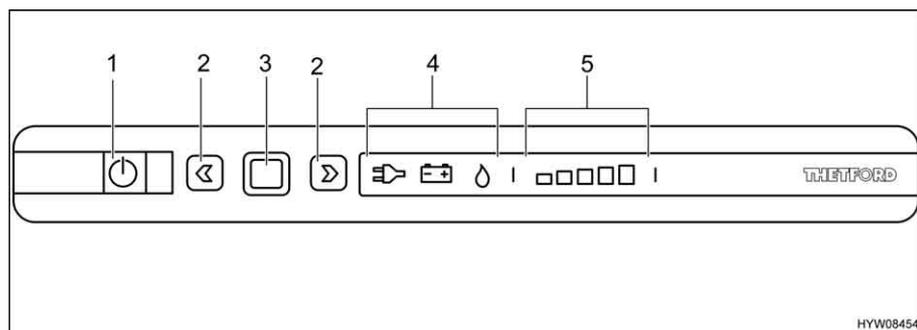

Fig. 172 Operating controls for the refrigerator
The current operating mode is indicated by an illuminated symbol (Fig. 172,4) on the operating unit.
When turned on the refrigerator automatically selects the thermostat position selected last. This position can be adjusted manually by using the arrow keys (Fig. 172,2). The illuminated bars of the cooling level indicator (Fig. 172,5) show the selected thermostat position. The refrigerating temperature for the three types of energy is set with the arrow keys. It takes a few hours till the refrigerator reaches its normal operating temperature. When changing over the operating mode the thermostat setting will be maintained. The refrigerating temperature is retained regardless of the type of power being used.
- Press and hold the On/Off button (Fig. 172,1) for 1 second. Button (Fig. 172,1) lights up green. To save energy, after approximately 10 seconds the display is dimmed.
- Press confirmation button (Fig. 172,3). The current setting of the operating is displayed.
- If the operating mode gas is not set: To change the setting, press and hold the confirmation button (Fig. 172,3) for approximately 2 seconds.
- Using the arrow keys (Fig. 172,2) select the operating mode gas. Gas supply is open. Ignition will take place automatically. A ticking sound can be heard until ignition has been completed successfully.
- Press and hold the confirmation button (Fig. 172,3) for about 2 seconds.
- Press confirmation button (Fig. 172,3) again. The current cooling level is shown by the illuminated bars (Fig. 172,5).
- To change the setting, press the arrow keys (Fig. 172,2) until the desired setting is displayed.
- Press and hold the On/Off button (Fig. 172,1) for about 2 seconds. All lights go out. Refrigerator is switched off.
- If 230 V operating mode is not set: To change the setting, press and hold the confirmation button (Fig. 172,3) for approximately 2 seconds.
- Using the arrow keys (Fig. 172,2) select the 230 V operating mode.
- If the 12 V operating mode is not set: To change the setting, press and hold the confirmation button (Fig. 172,3) for approximately 2 seconds.
- Using the arrow keys (Fig. 172,2) select the 12 V operating mode.